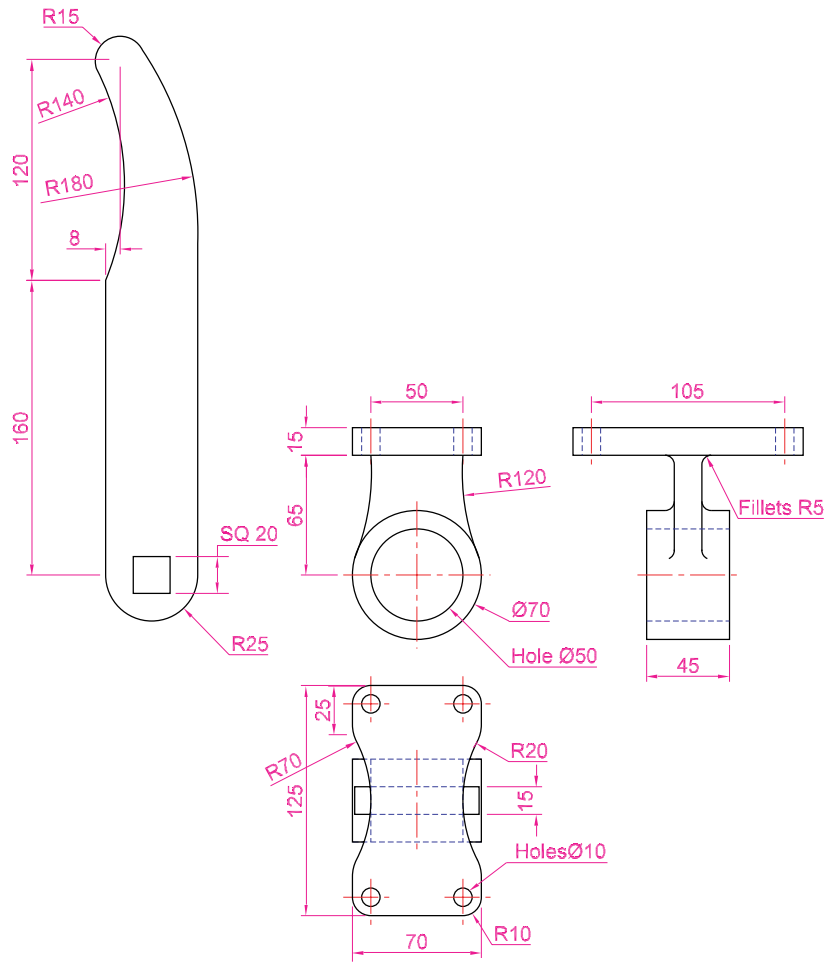
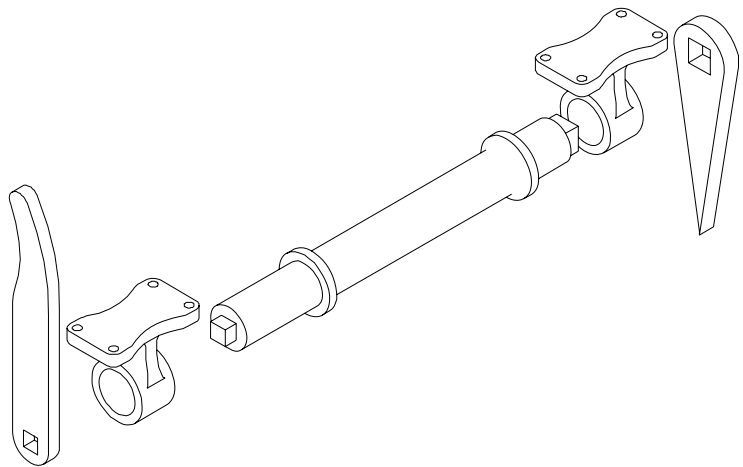

Fig. 19.24 Exercise 6 – details drawing
Fig. 19.25 Exercise 6 – exploded isometric drawing
6. Working to the details shown in Fig. 19.24, construct an assembled 3D model, with the parts in their correct positions relative to each other. Then separate the parts as shown in the isometric drawing in Fig. 19.25. When the 3D model is complete add suitable lighting and materials and render the result.